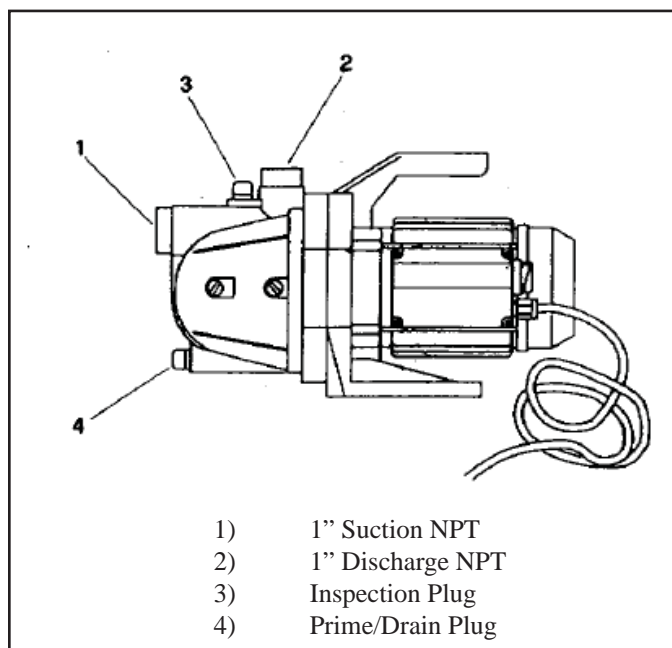

Figure 2 8430 (115V/60Hz)
1. The diameter of the suction and lines should correspond to the diameter of the connections of the pump housing (1"). See figure 2. For a suction height of over 12 ft., a suction hose with a greater diameter should be used.
2. Fit the suction lines with the foot valve to the pump (at point 1, Fig 2), avoiding siphons, counter slopes and stand the pump on solid, flat level ground.
3. Fit the delivery line (at point 2, Fig 2).
necessary to recheck pump's installation. When checking operations, always remember to take out the drain plug (point 4, Fig 2). Possible causes for loss of prime may be a leak in packaged product valve or down tube suction line letting air in, faulty foot or check valve, suction line not completely submerged or damaged, too high suction lift clogged suction filter or closed outlet.